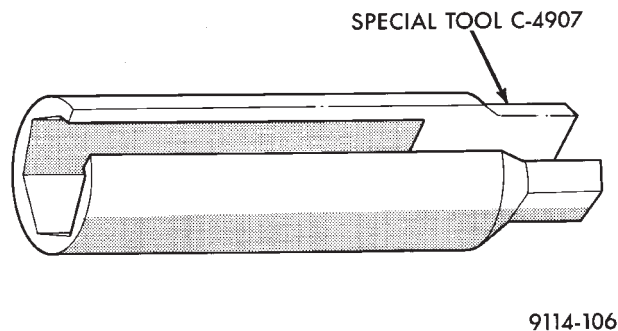

Fig. 11 Oxygen Sensor Socket
- (1) Disconnect oxygen sensor electrical connector.
(2) Remove sensor using Tool C-4907 (Fig. 11).